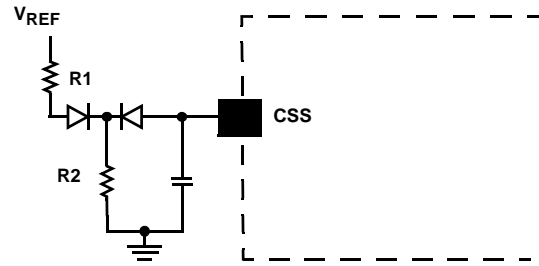

FIGURE 4. REFERENCE-BASED CLAMP CIRCUIT
- Per Equation 3, the clamping voltage is a function of the charge current ISS. For a more predictable clamping voltage, the CSS pin can be connected to a reference based clamp circuit, as shown in Figure 4. To make the Vclamp less dependent on the soft-start current (ISS), the currents flowing through R1 and R2 should be scaled much greater than ISS. The relationship of this circuit can be found in Equation 4.